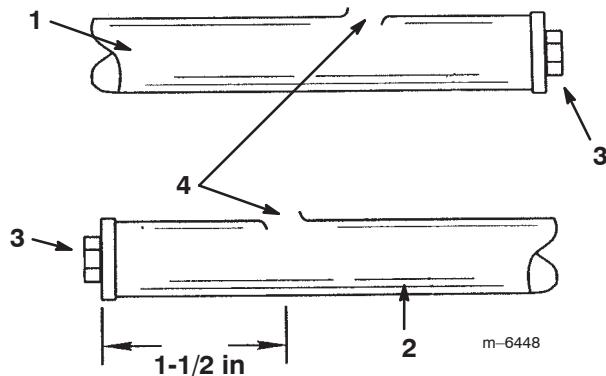

Figure 11
- Locate, mark, and drill (through the top surface only) a hole (5/8 inch dia) 1-1/2 inch from the plugged end of the right boom pipe (Fig. 11).
- Use a round file or deburring tool to deburr the holes you drilled in the boom pipes (Fig. 11).
- Insert a drift punch into the 5/8 inch holes in the boom pipes and distort the openings as shown in Figure 11.